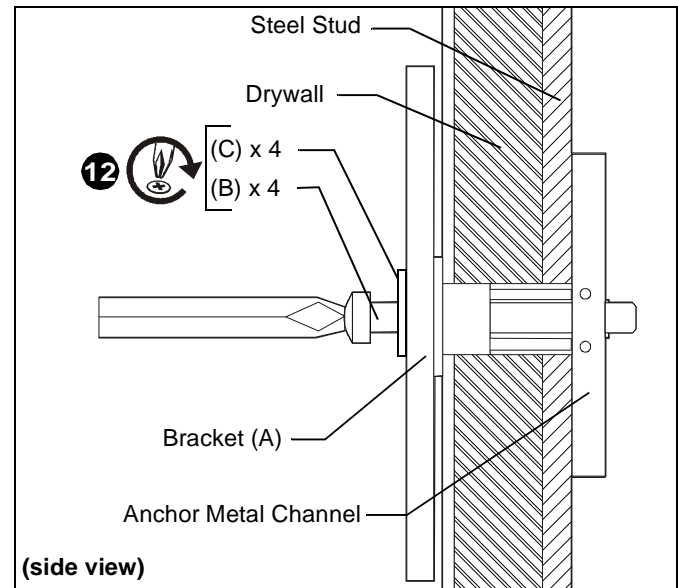

Figure 7
10. Place WBAP bracket (A) over anchors and align mounting slots in bracket with holes in anchors. (See Figure 7)
11. Place 1/4" flat washer (C) onto 1/4-20 x 1-3/4" Phillips pan head screws (B).
12. Insert Phillips pan head screws (B) with flat washer (C) through mounting slot in wall plate and into anchor (D) and tighten until flush against wall plate. DO NOT over-tighten! (See Figure 7)